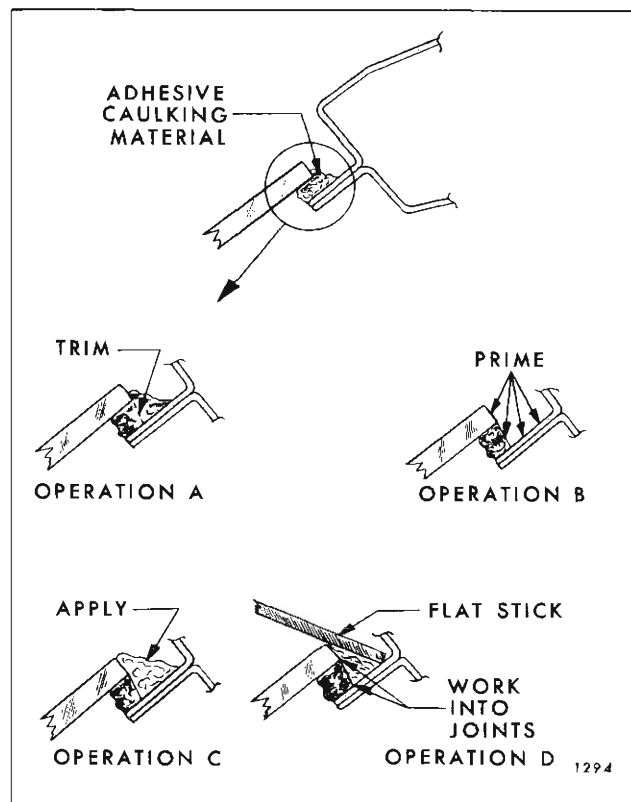

Fig. 5C11—Correction of Adhesive Caulked Glass Installation Waterleaks
4. Using a sharp knife, trim off uneven edge of adhesive caulking material (See Operation "A", Fig. 5C11) at leak point and 3 to 4 inches on both sides of leak point or beyond limits of leak area.
caulking material and over adjacent painted surface. (See Operation "B", Fig. 5C11).
6. Apply adhesive caulking material, as shown in Operation "C" (Fig. 5C11), at leak point and 3 to 4 inches on both sides of leak point or beyond limits of leak area.
7. Immediately after performing step 6, use flat stick or other suitable flat-bladed tool to work adhesive caulking material well into leak point and into joint of original material and body to effect a watertight seal along entire length of material application. (See Operation "D", Fig. 5C11).